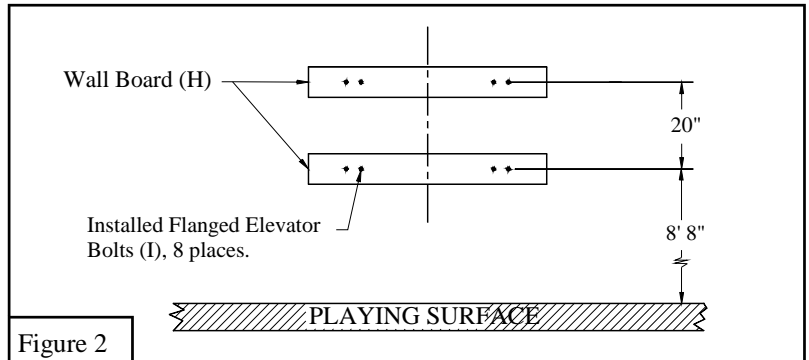

Figure 2
2. Locate the proper location on the wall to mount the *Wall Boards* (H). Take into consideration that the distance from the wall to the face of the backboard is 32" at 10' and 39" at 8' rim height. See Figures 2 and 6.
3. Attach bottom *Wall Board* (H) exactly 8' 8" from playing surface to centerline of *Flange Elevator Bolts* (I). Make sure *Wall Board* (H) is level and centered on your playing surface. Attach top *Wall Board* (H) with exactly 20" between *Flange Elevator Bolts* (I). Use anchors (provided by installer) that are best suited for the type of wall being attached to. Attach each board in at least 3 places. See Figure 2.